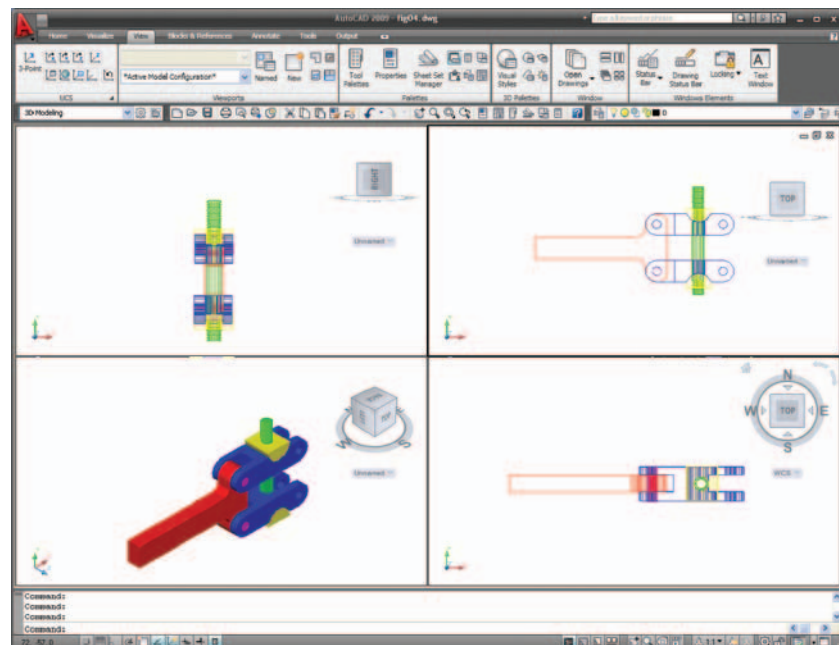

Fig. 14.4 First example – inserting 3D blocks
First example – inserting 3D blocks (Fig. 14.4)
7. Using the **Move** tool, move the individual 3D models into their final places on screen and shade the **Isometric** viewport using **Conceptual** shading from the the **Home/View** panel (Fig. 14.4).